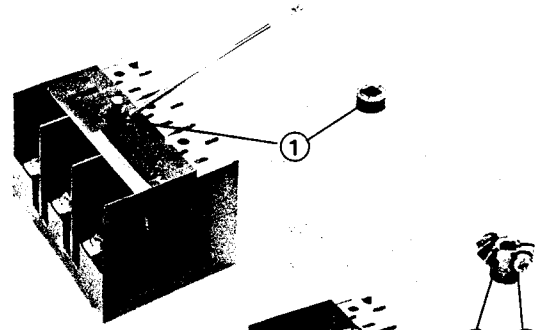

Figure 1
- Remove the plastic bushing ① with a screwdriver and discard (Fig. 1).